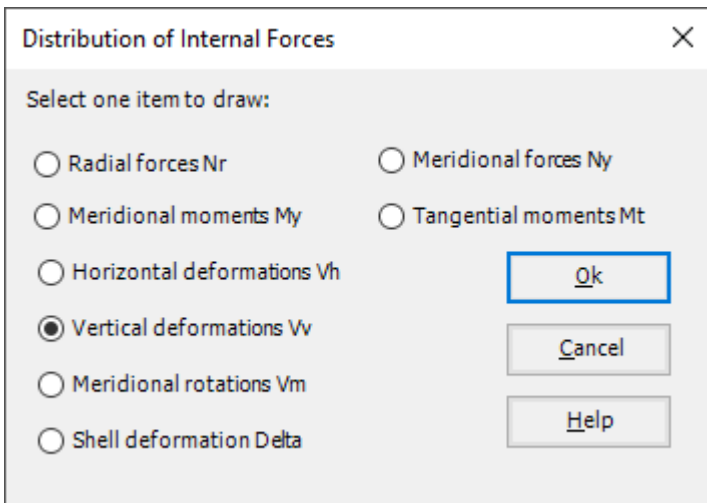

Figure 11.30 "Distribution of internal forces" option box
- From "Rotational shell results" command in the "Results" menu, choose "In Plan" command. The following option box in Figure 11.30 appears